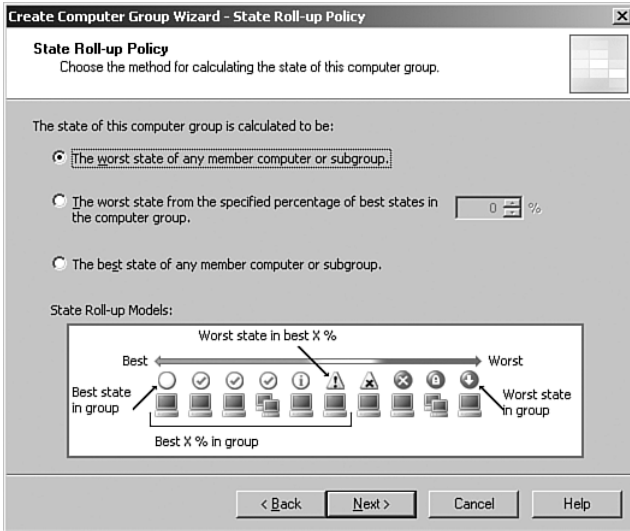

FIGURE 20.20 State Roll-up policy.
6. At the Create Computer Group Wizard – State Roll-up Policy screen take the default value of The Worst State of Any Member Computer or Subgroup, as shown in Figure 20.20. This option indicates that the state of the entire computer group is equal to the most severe state of any member of the computer group. In our example, the only server in the computer group is Monarch, so this setting only matters if more computers are added to the computer group (if Monarch is red due to an error, it will be red regardless of this setting).